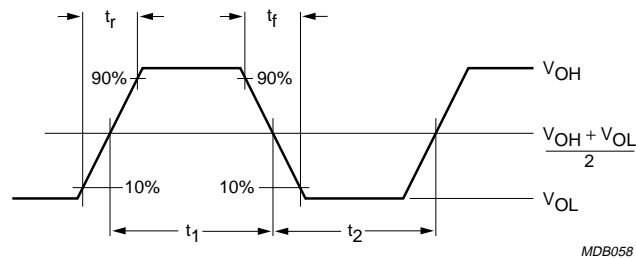

Fig.12 Definition of output and input transition times.
- Transition time and duty factor definitions are shown in Fig.12;  $\delta = \frac{t_1}{t_1 + t_2}$